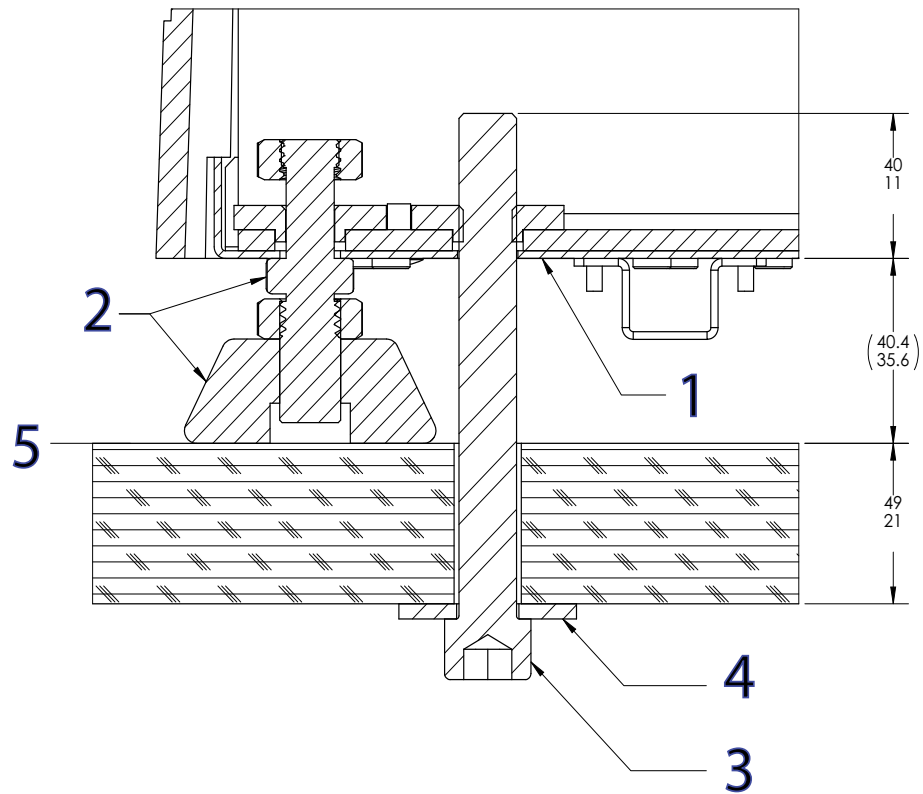

Figure 13. Secure the frame to the table
Legend for Figure 13
3. Install each bolt and oversized washer as shown in Figure 13 on page 62.